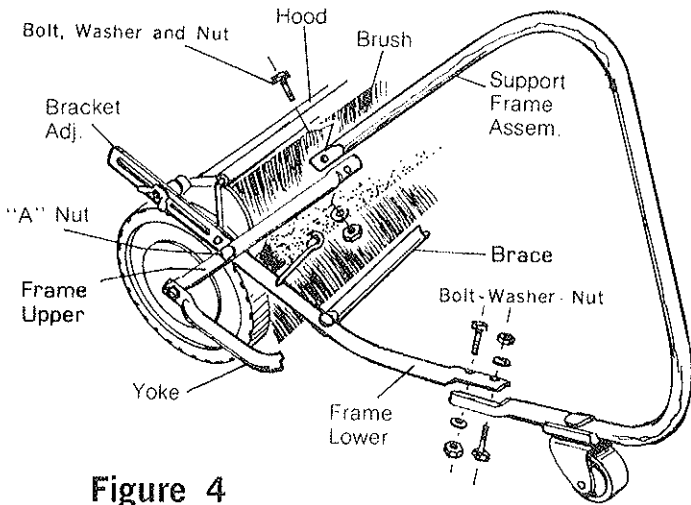

Figure 4
2. Fig. 4 & 5 - Fasten the Support Frame Assemblies to the Frame-Lower and Frame-Upper with the Cont. Hd. Bolts, Int. Tooth Washers and Nuts as shown (both sides).